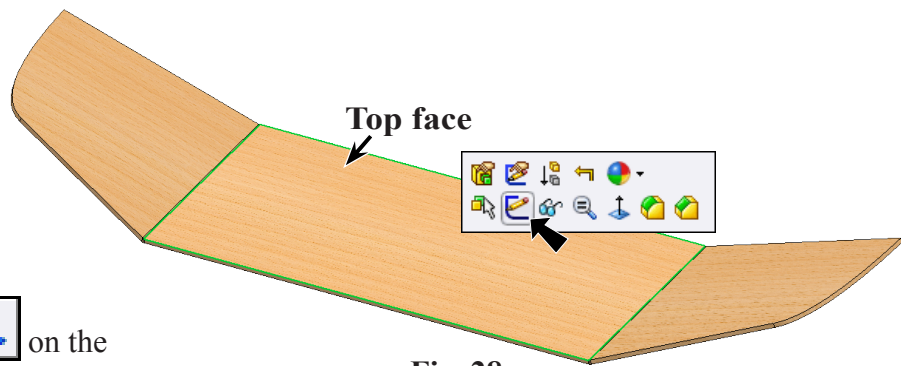

Fig. 28
Step 1. Click the **top face of inboard panel** and click **Sketch**  on the Content menu, **Fig. 28**.